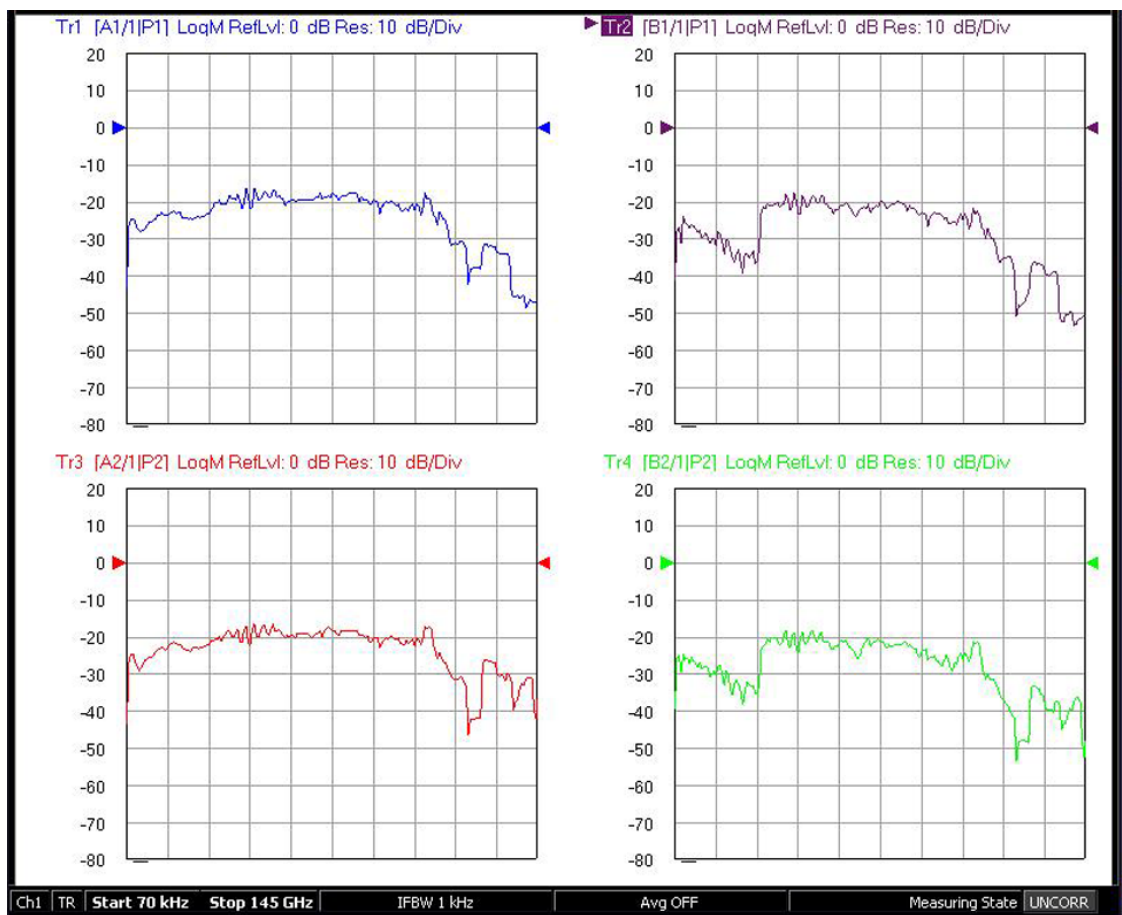

Figure 4-17. Typical VNA Four-Trace Display of Non-Ratioed Parameters for Initial Checkout
21. Connect **shorts** to both 0.8 mm connectors on the MA25300A Modules, and ensure the resultant display looks similar to Figure 4-17 below.